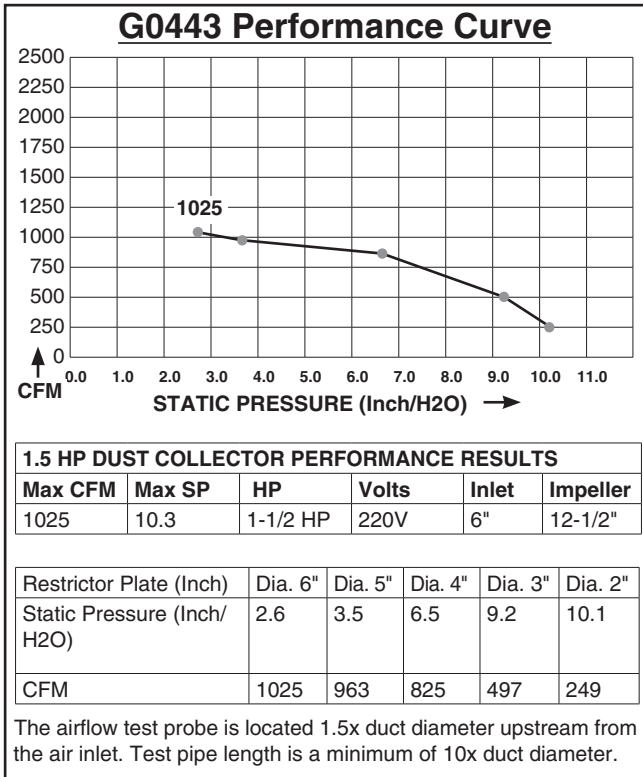

Figure 48. G0443 performance curve chart and data.
5. Compare the total static pressure loss for that line to the closest CFM given in **Figure 48** for your dust collector on **Page 31**.